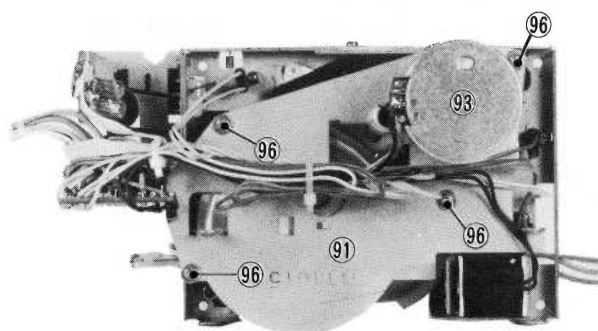

Fig. 29
7. Motor (Fig. 29)
9. Flywheel ass'y (Fig. 29, 30)